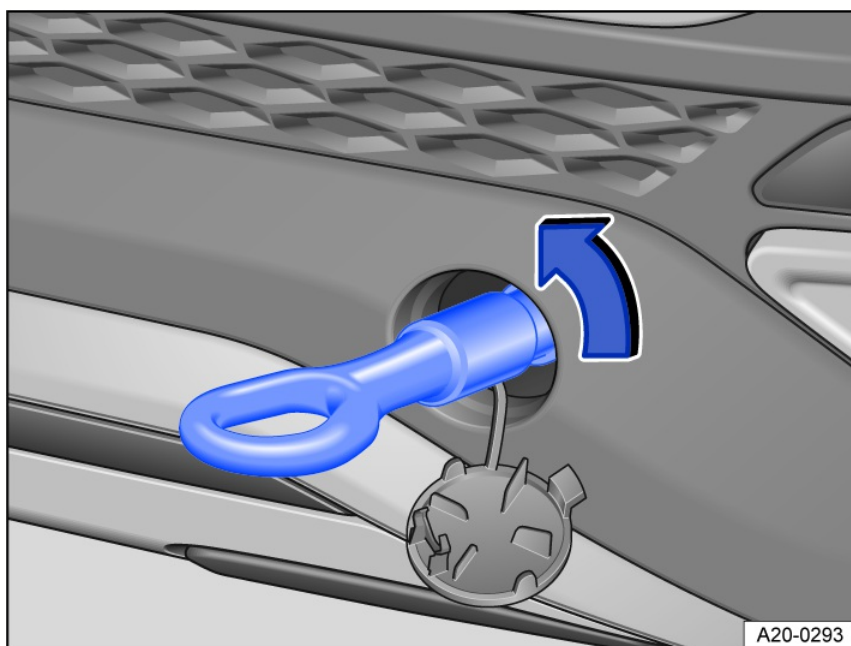

Fig. 147 In the right rear bumper: Screw in towing eye.
4. Rotate the towing eye in the direction of the arrow as far as possible to install it in the mount *fig. 147*, ⇒ . Use a suitable object to tighten the towing eye completely and securely in the mount.